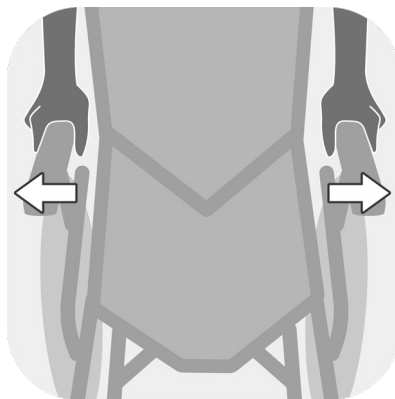

Figure 4.2
2. Hold the armrests and pull outwards. (See Figure 4.2.)